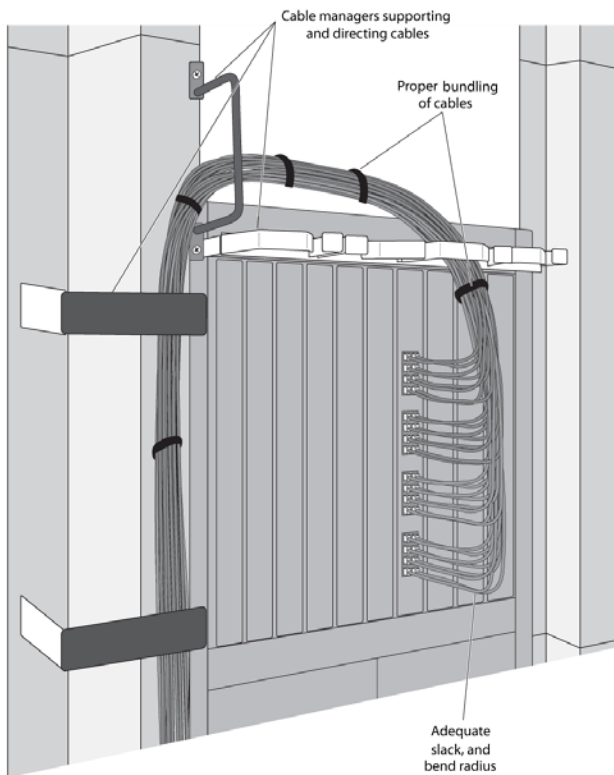

Figure 14. Correctly installed and bundled cable
- Provide enough slack, approximately 2 to 3 inches (5.08 to 7.62 cm), to provide proper strain relief as shown in Figure 14, Correctly installed and bundled cable.
- When installing a patch panel using twisted pair wiring, untwist no more than 1 inch (2.54 cm) of the cable to avoid radio frequency (RF) interference.